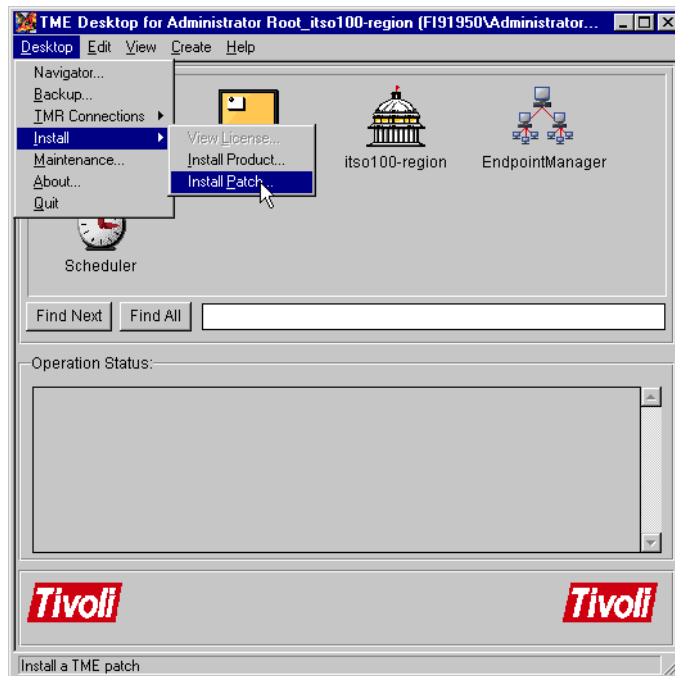

Figure 29. Patch Installation
23. Select **Desktop->Install->Install Patch** from the menu shown in Figure 29 on page 51.